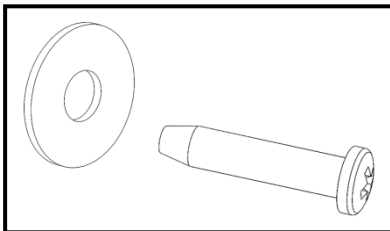
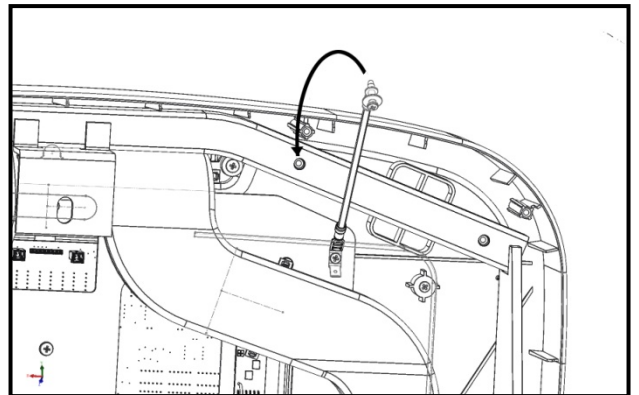
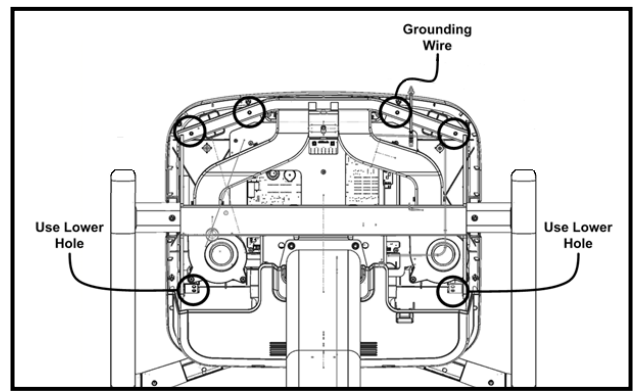

Fig. 18
Fig. 19
Fig. 20
18. From the back of the display (Fig. 19), connect the display's grounding wire to the frame using a washer & phillips head screw (Fig. 18).
19. Secure the display to the console frame by installing six phillips head screws with washers (Fig. 18) at the corresponding circled locations (Fig. 20).